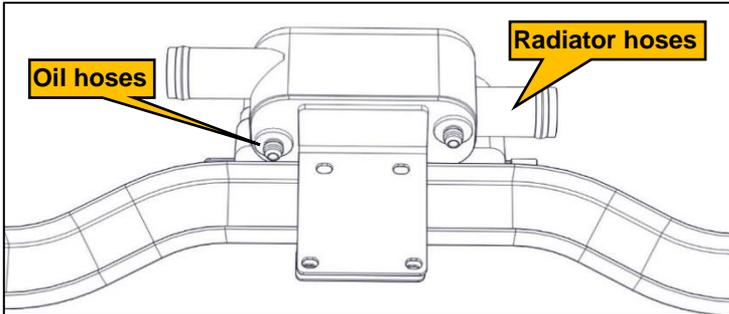

Figure 1 – Remove oil and radiator hoses
- Disconnect the oil lines from the oil cooler and cap them to prevent debris entering the system (Figure 1).